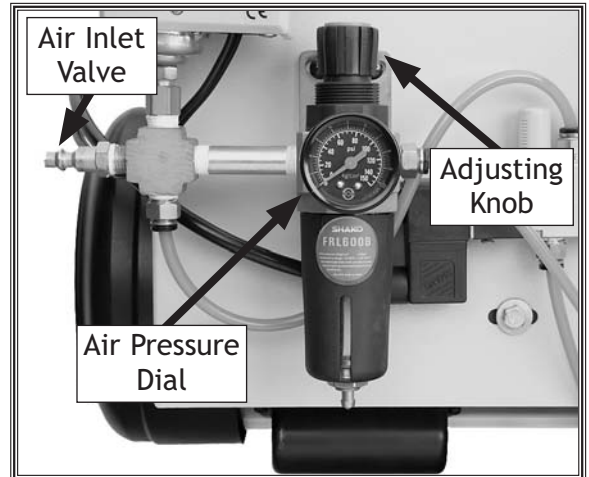

Figure 12. Air regulator assembly on the back of the sander.
1. Connect the source of compressed air to the air regulator inlet valve on the back of the machine (see **Figure 12**).